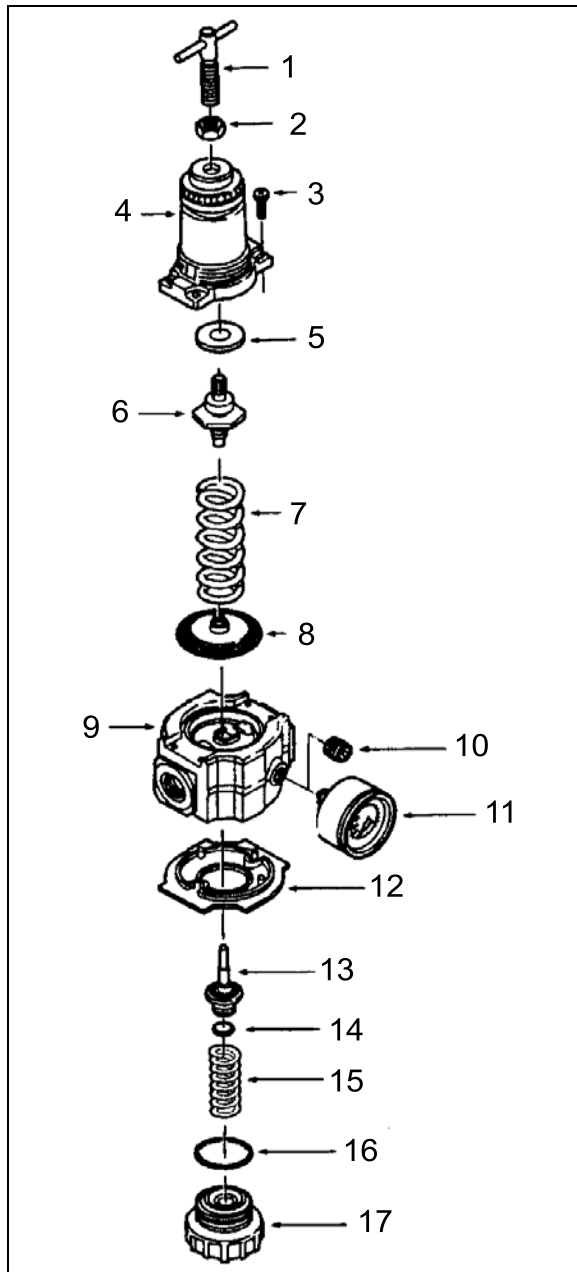

FIGURE 44: AIR PRESSURE REGULATOR
1. Before turning on system air pressure, release jam nut (2, Figure 44) then turn regulator adjustment handle counterclockwise until the load is removed from the regulating spring.
5. Tighten jam nut (2, Figure 44) to lock pressure setting.
1. Shut off inlet pressure and reduce pressure in inlet and outlet lines to zero. Turn regulator adjustment handle (1, Figure 44) counterclockwise until all load is removed from regulating spring. Regulator can be disassembled without removal from air line.
1. Lubricate O-ring (14 and 16, Figure 44), valve stem (13), tip of adjusting screw (1), and the outer circumference and both sides of the thrust washer (8) with a light coat of good quality O-ring grease.